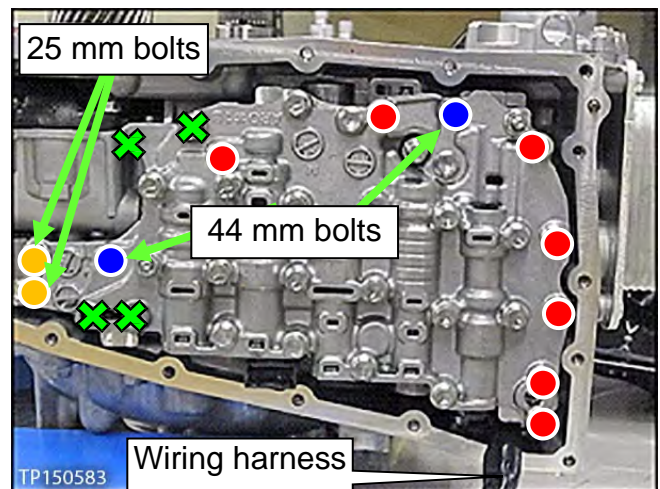

Figure 23
3. Install the Control Valve with nine (9) mounting bolts (Figure 23).
**IMPORTANT:** Leave Four (4) ✘ bolt holes blank at this step.